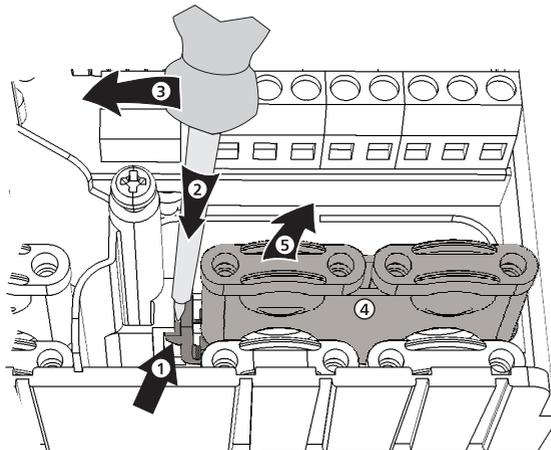

Fig 5: Removing the right plastic link
1. Insert a screwdriver under the right plastic link between the casing and the spring clamp ①, ② (Fig. 5).
2. Carefully push the screwdriver to the left ③. Lever the spring clamp ① to the right until the plastic link ④ is free.
3. Pull out the plastic link upwards by hand ⑤.